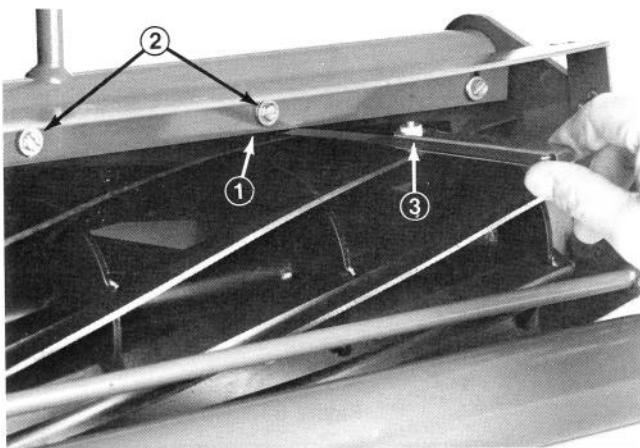

Figure 5
1. Loosen screws securing top bar (Fig. 5). Insert 0.060 inch (1.5 mm) feeler gauge between top of reel and bar and tighten screws (Fig. 5). Assure bar and reel are equal distance apart across complete reel.